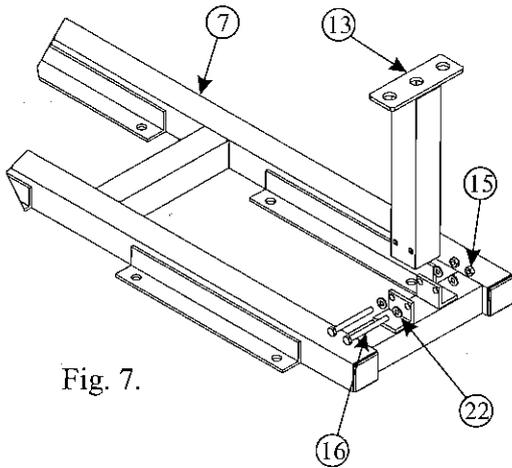

Fig. 7.
8 Take the End Supports (13) and attach them to the Seat Frame (7) using two M8x80mm Hex Bolts (16), four 8mm Skify Washers and two M8 Nylock Nuts, as shown in figure 7.